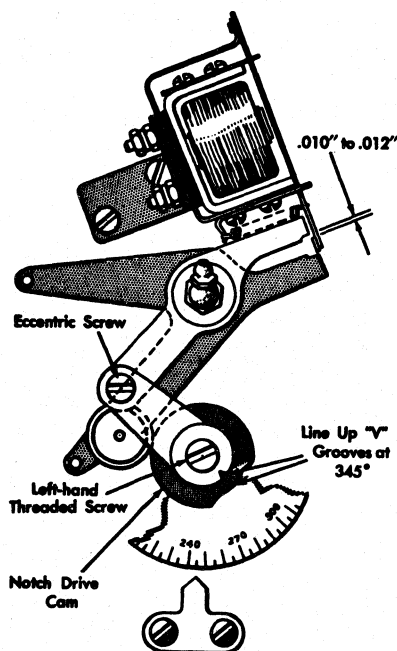
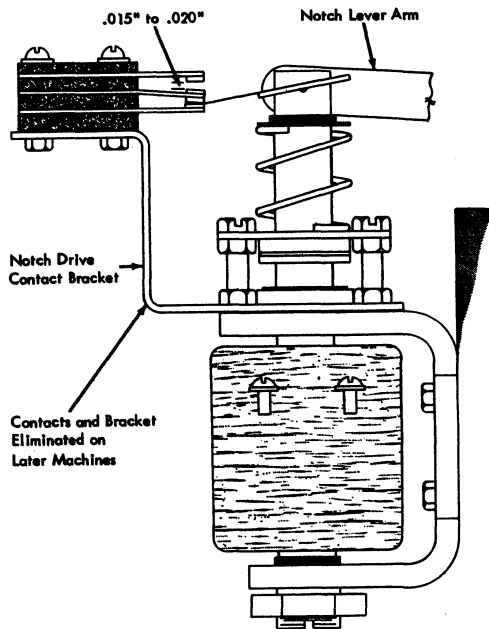

Figure 60. Notch Drive Unit
Figure 62. Solenoid Drive Unit
2. Trip verifier clutch and turn drive unit index to 245° (Figure 60). Adjust eccentric screw in suppress arm for .010-inch to .012-inch clearance to interposer block on armature. When loosening or tightening screw in end of shaft, take care to avoid damaging clutch spring on other end of shaft. Each time drive unit is readjusted by the screw in the anchor bar, this adjustment must be checked.
Redesigned Notch Drive. Machines manufactured after May, 1959, have a simplified notch drive mechanism. A notch drive solenoid (Figure 62) replaces the old-style drive unit shown in Figure 60.